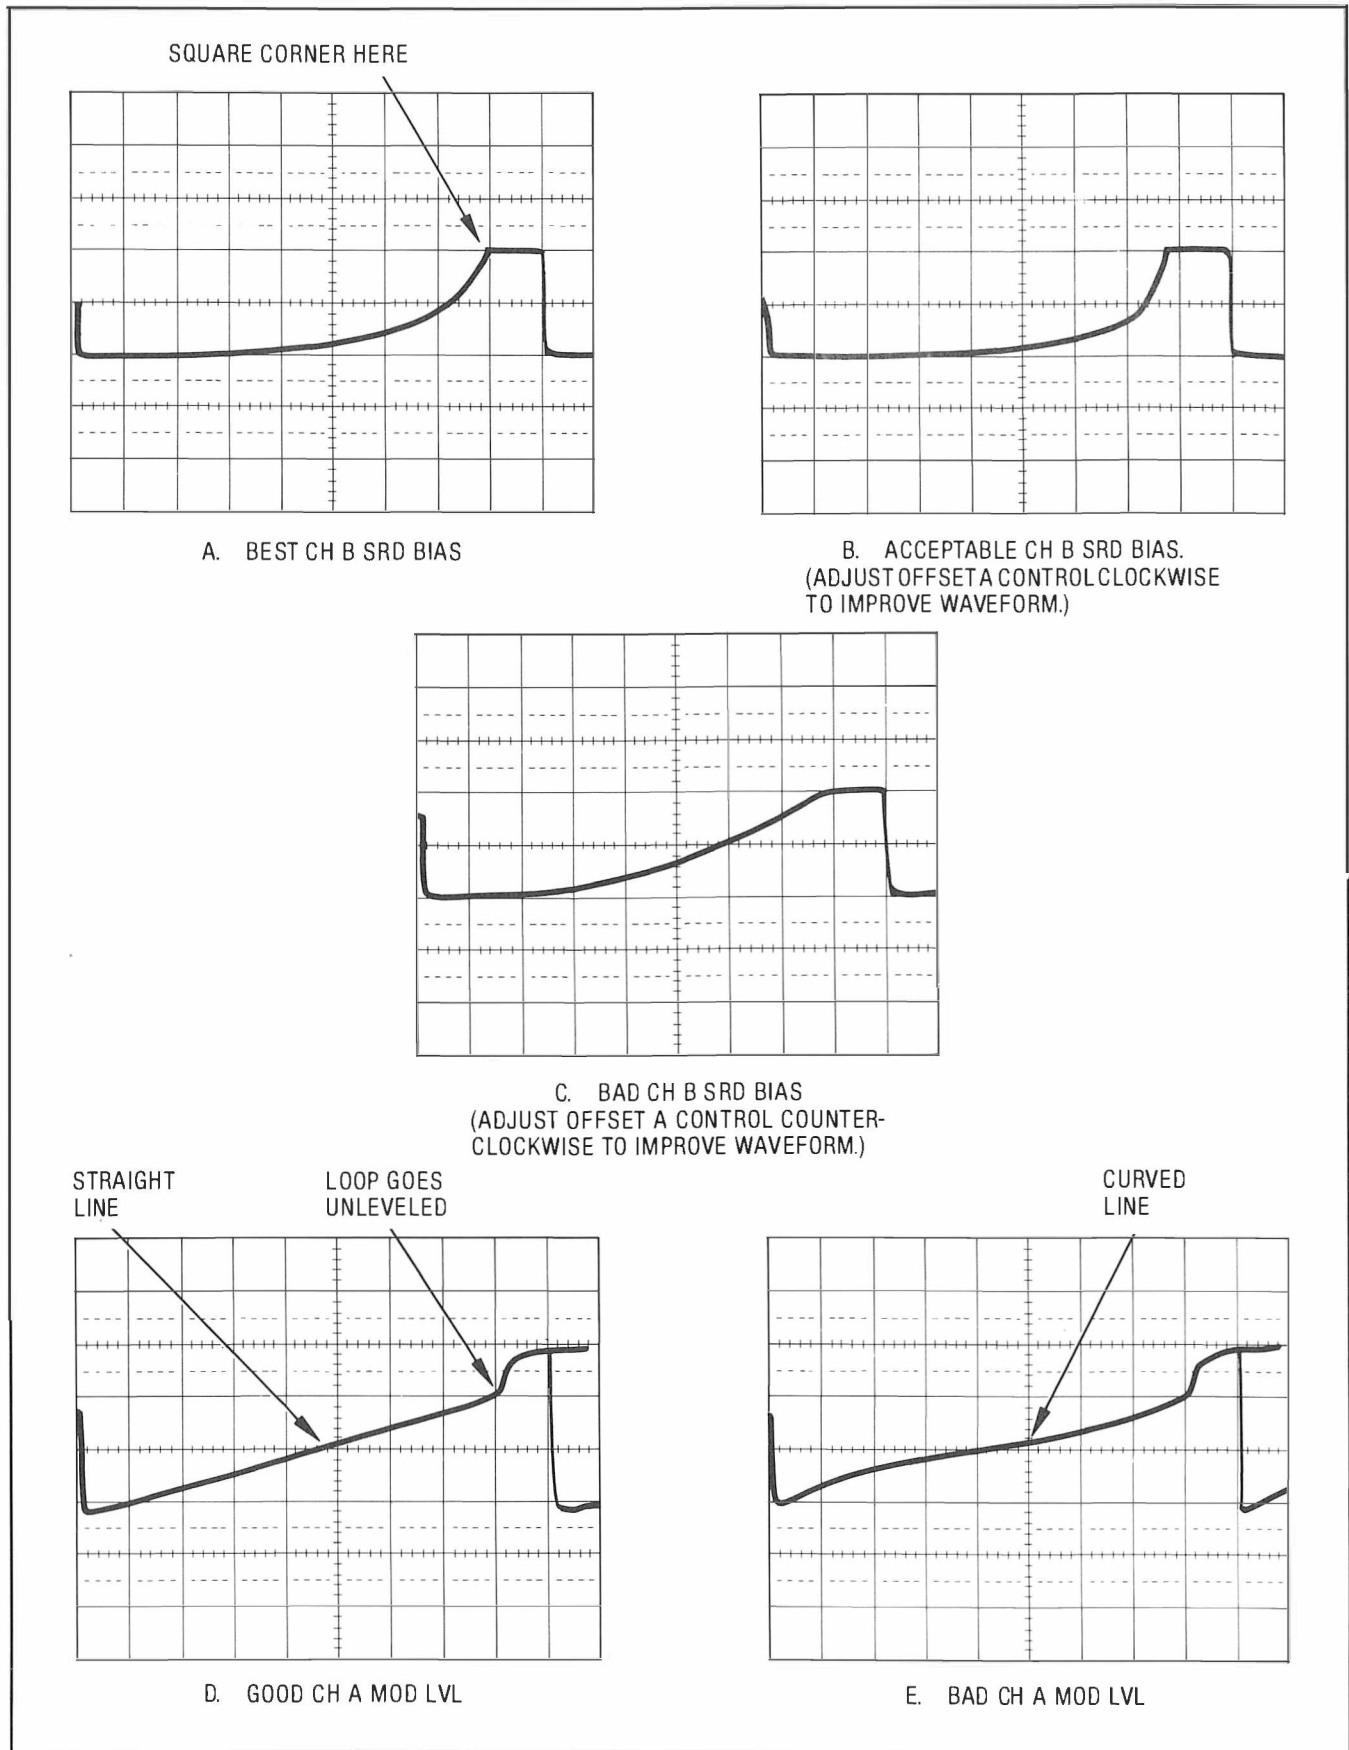

Figure 5-51. Typical MOD LVL and SRD BIAS Waveforms
7. Center A24R12 MIN control and A24R5 X2C control. Adjust A24R1 OFF A for optimum display as shown in Figure 5-51, Waveform A, B, and C.
8. Press HP 8340A **[CW]** and enter **[1] [0] [.] [6] [GHz]**. Adjust A24R2 OFF B for optimum trace as shown in Figure 5-51, Waveforms A, B, and C. Using the **[STEP]** keys, step through Band 2 from 7 to 13.4 GHz and check for an optimum SRD Bias trace (Figure 5-51, Waveforms D and E) at each step. If not optimum, adjust A24R2 OFF B if the HP 8340A frequency is closer to 13.5 GHz, or adjust A24R1 OFF A if the frequency is closer to 7 GHz. If an adjustment is made, step through the entire band again, making sure every step is optimized or acceptable if all steps cannot be optimized.
12. Press **[RECALL] [1]** then press **[CW]** and enter **[1] [0] [.] [6] [GHz]**. Change oscilloscope EXT TRIGGER to NEG. TRIGGER, DISLAY CHOP: CH A to .05 V/DIV, and CH B to 0.1 V/DIV. Adjust A24R5 X2C to minimize the MOD LEVEL voltage at the start of the power sweep and keep the MOD LEVEL power sweep trace straight with no steps or "bows" as it sweeps up. Using the **[STEP]** keys, step through band 2 from 7 to 13.4 GHz and readjust A24R5 X2C if necessary to improve the MOD LEVEL trace. Also, adjust A24R1 OFF A and A24R2 OFF B if necessary to optimize the SRD Bias as in step 8 above. If any adjustments are made, step through band 2 again until the SRD bias and the MOD LEVEL trace is optimized. It will not be possible to adjust the MOD LEVEL trace for optimum at each step, so adjust for best compromise trace all across Band 2. (See Figure 5-51.)
power sweep and keep the MOD LEVEL trace straight with no “bows” as it sweeps up. (Refer to Figure 5-51.) Press [RECALL] [1] then [CW] and enter [1] [7] [.] [5] [GHz]. Adjust A24R8 X3C for a MOD LEVEL trace as described above. Using the [STEP] keys, step through Band 3 from 13.5 to 19.9 GHz and readjust if necessary to achieve the best MOD LEVEL trace across Band 3.
The SRD bias trace is adjusted in Band 2 with A24R1 OFF A and A24R2 OFF B for optimum. It should not require any other adjustments in Bands 3 or 4, unless the SRD bias trace is bad as shown in Figure 5-51. If either the OFF A or OFF B controls are adjusted in Bands 3 or 4, then each band will have to be rechecked, starting with Band 2 at 7 GHz and stepping through each band.